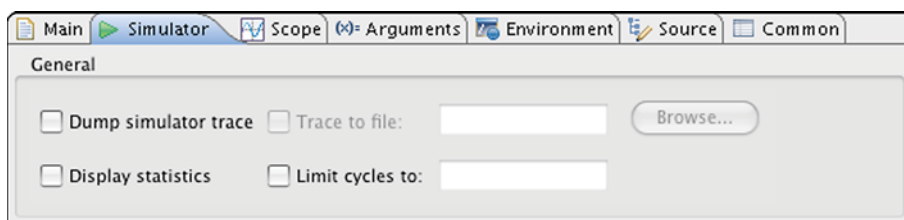

Figure 1:
6. Select the **simulator** option and click the **Simulator** tab to configure additional options, as shown in Figure 1.